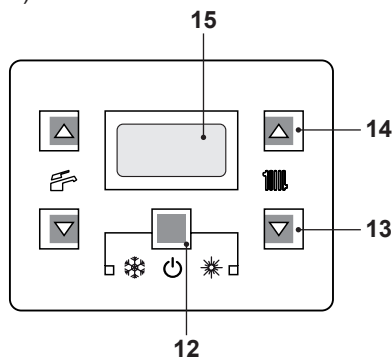

Fig. 7.4
- Press the 12 key for 2 seconds until both  symbol appear on the display (Fig. 7.4).
- Switch off the boiler by pressing the 12 (Fig. 7.4) key for 2 seconds until the  symbol appears on the LCD display (Fig. 7.3).